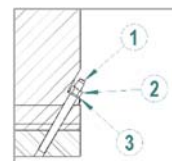

Figure 4.13: Dowel pin set
After aligning the set and having assured a perfect alignment (**both, hot and cold**), the motor must be doweled to the anchor plate or to the base, as shown in Figure 4.13.
**Figure 4.13 legend:**